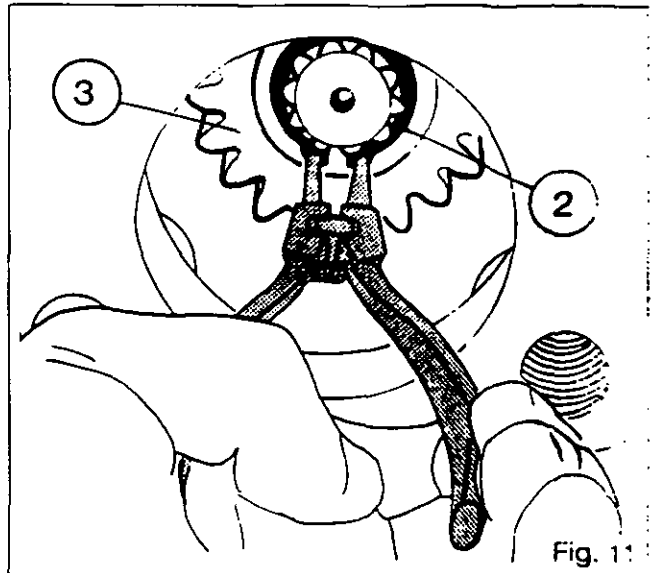

Fig. 11
### New bracket (Fig.11)
42. Place gear (3) and fit circlip (2)(Fig.11).
43. Check the movement of coupler (10) through the access panel in the cover (12).